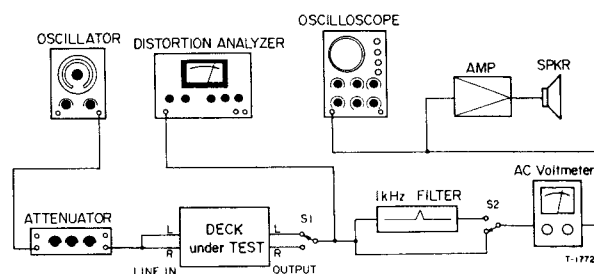

Fig. 5-1 Basic test setup
16. Erase efficiency	• Connection — Fig. 5-1. But switch ON 1 kHz filter. • Record 1 kHz. Rewind tape to mid point of recorded portion. Do "no signal" recording. Get difference between 1 kHz portion and its erased portion.
17. REC MUTE function	• Connection — Fig. 5-1. But switch ON 1 kHz filter. • Record 1 kHz. Then push REC MUTE button for several sec. Rewind end play tape. Get difference between 1 kHz portion and the "no signal" portion.
18. Channel separation	• Connection — Fig. 5-1. But do not connect LINE IN (R), switch ON 1 kHz filter. • Set deck in record mode. Find differences between 1 kHz recorded portion (L-ch) and "no signal" portion (R-ch).
19. Adjacent track crosstalk	• Connection — Fig. 5-1. But do not connect LINE IN (L) and OUTPUT (L). • Record 125 Hz on R-ch. Note output level of its recorded portion. • Invert tape and play R-ch track. Check leakage level against the output reference of previously recorded portion.